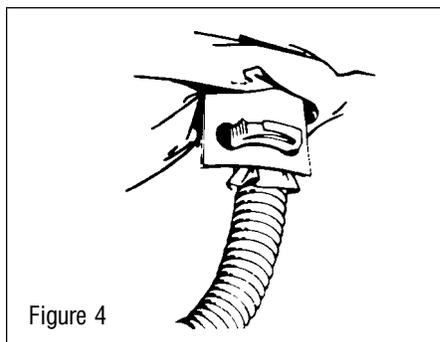

Figure 4
3. Install the nylon clamp over the air entry sleeve and breathing tube, inserting clamp locks through two holes in plastic anchorplate sewn into the Lancer Cool Collar air delivery system. Locks should face away from the user's neck (Figure 4).